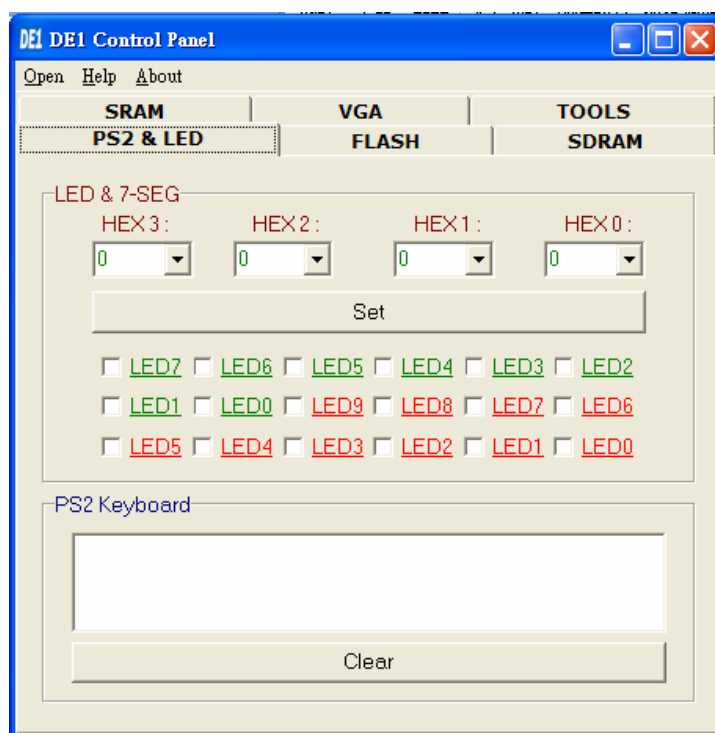

Figure 3.2. The DE1 Control Panel.
5. Start the executable *DE1_control_panel.exe* on the host computer. The Control Panel user interface shown in Figure 3.2 will appear.
In the window shown in Figure 3.2, the values to be displayed by the 7-segment displays (which are named *HEX7-0*) can be entered into the corresponding boxes and displayed by pressing the **Set** button.